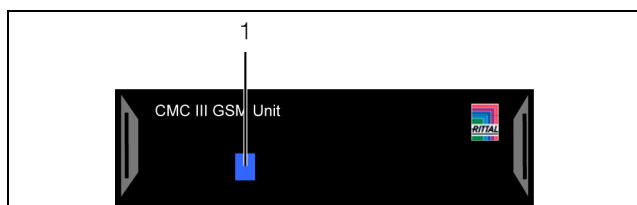

Fig. 10: Front of the GSM unit
A multi-LED for status display is integrated into the front of the GSM unit (fig. 10, item 1).